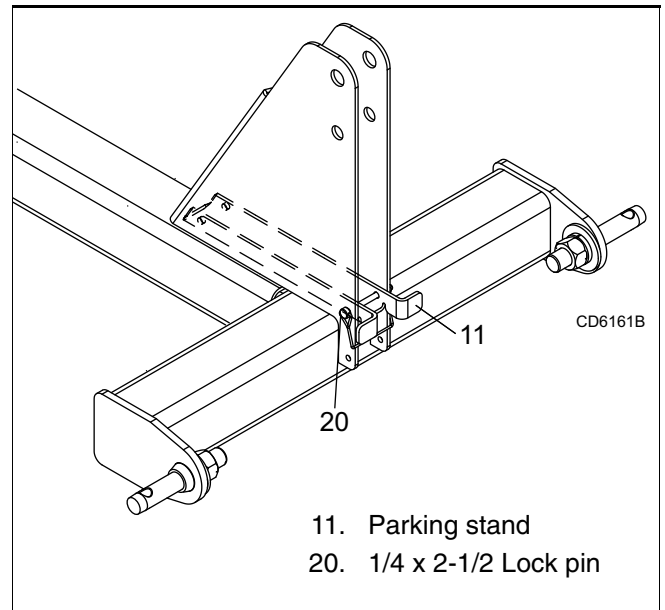

Figure 7. Parking Stand - Operating Position
1. Place parking stand (11) between 3-point mast plates as shown in Figure 7.
2. Secure into position using lock pin (20).
2. Remove parking stand from operating position (Figure 7).